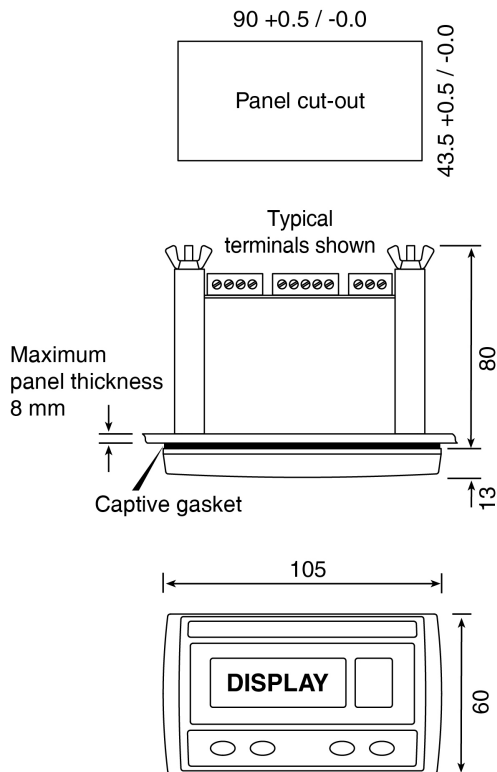

Fig 6 Dimensions
Fig 6 show the overall dimensions of the indicators together with the recommended panel enclosure cut-out dimensions.
- Cut the aperture specified in Fig 6 in the panel enclosure. Ensure that the edges of aperture are de-burred.